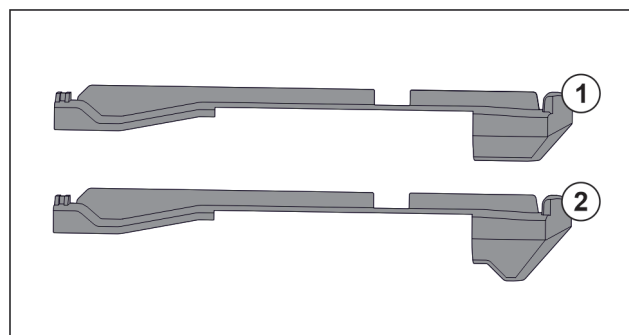

Fig. 141 Comparing attachments
There are two different attachments in the appliance. The attachment above the lowest drawer Fig. 141 (2) has a three-cornered edge. All other attachments Fig. 141 (1) have a straight edge.
- Fit attachment Fig. 141 (2) with the three-cornered edge above the lowest drawer.
- Fit attachment *Fig. 141 (1)* with straight edge in all other positions.